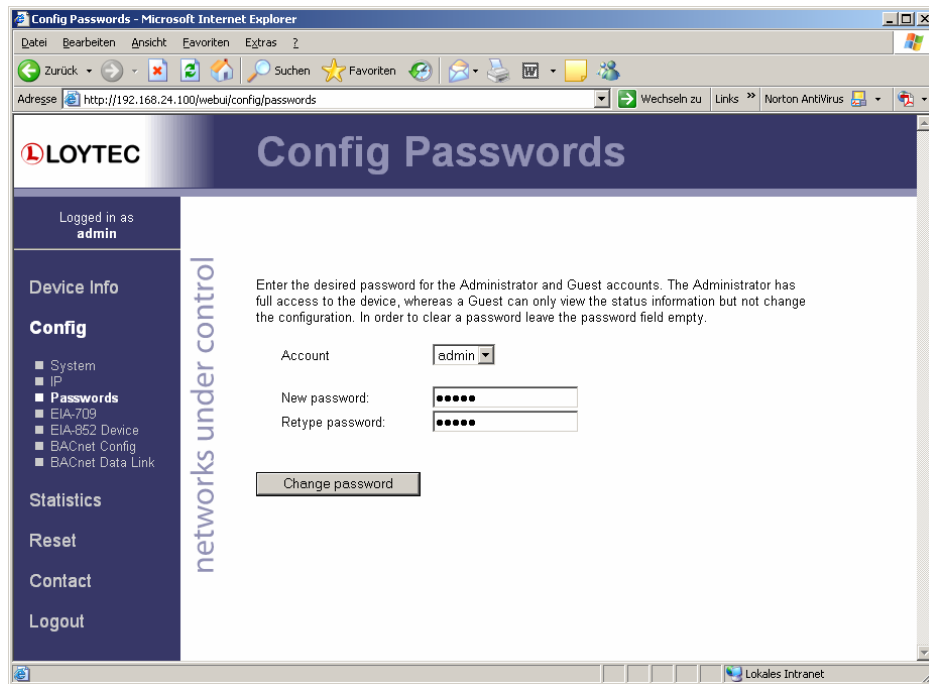

Figure 36: Password Configuration Screen
The Config menu opens. Click on “Passwords” in the Config menu, which opens the password configuration page as shown in Figure 36. The L-Gate has two user accounts: (1) “guest” allows the user to view certain information only, e.g. the device info page. By default the guest user has no password. (2) “admin” has full access to the L-Gate and can make changes to its configuration. Note that the user accounts are also used to log on to the FTP server.